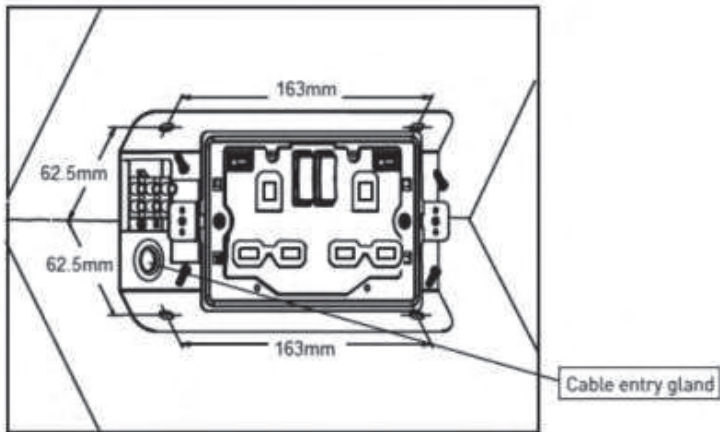

Fig. 2
- Mark the location of the fixing holes and drill the holes ensuring not to infringe with any gas/water pipes or electrical cables (see Fig. 2)